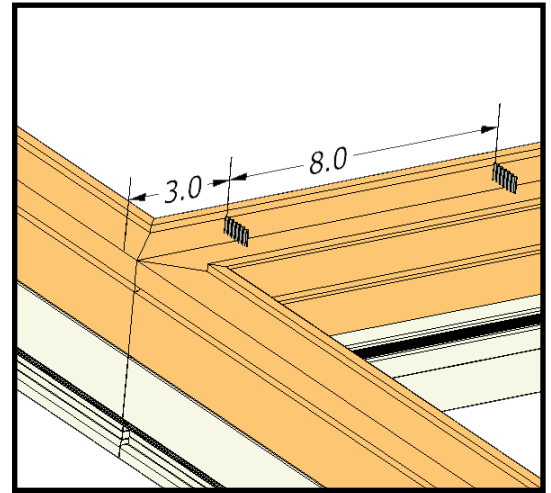

Figure 3
C. Apply corrugated staples 3" from ends of mull and 6"- 8" spaced down the length of the mull securing the units together (figure 3).